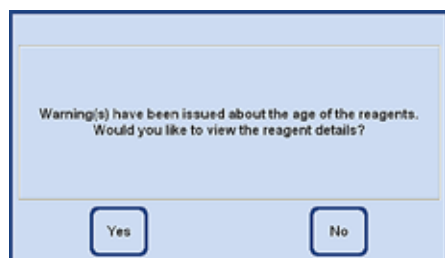

Fig. 223
- If threshold values in the reagent status have been exceeded, a warning message to this effect appears at the end of the cleaning program (Fig. 223).